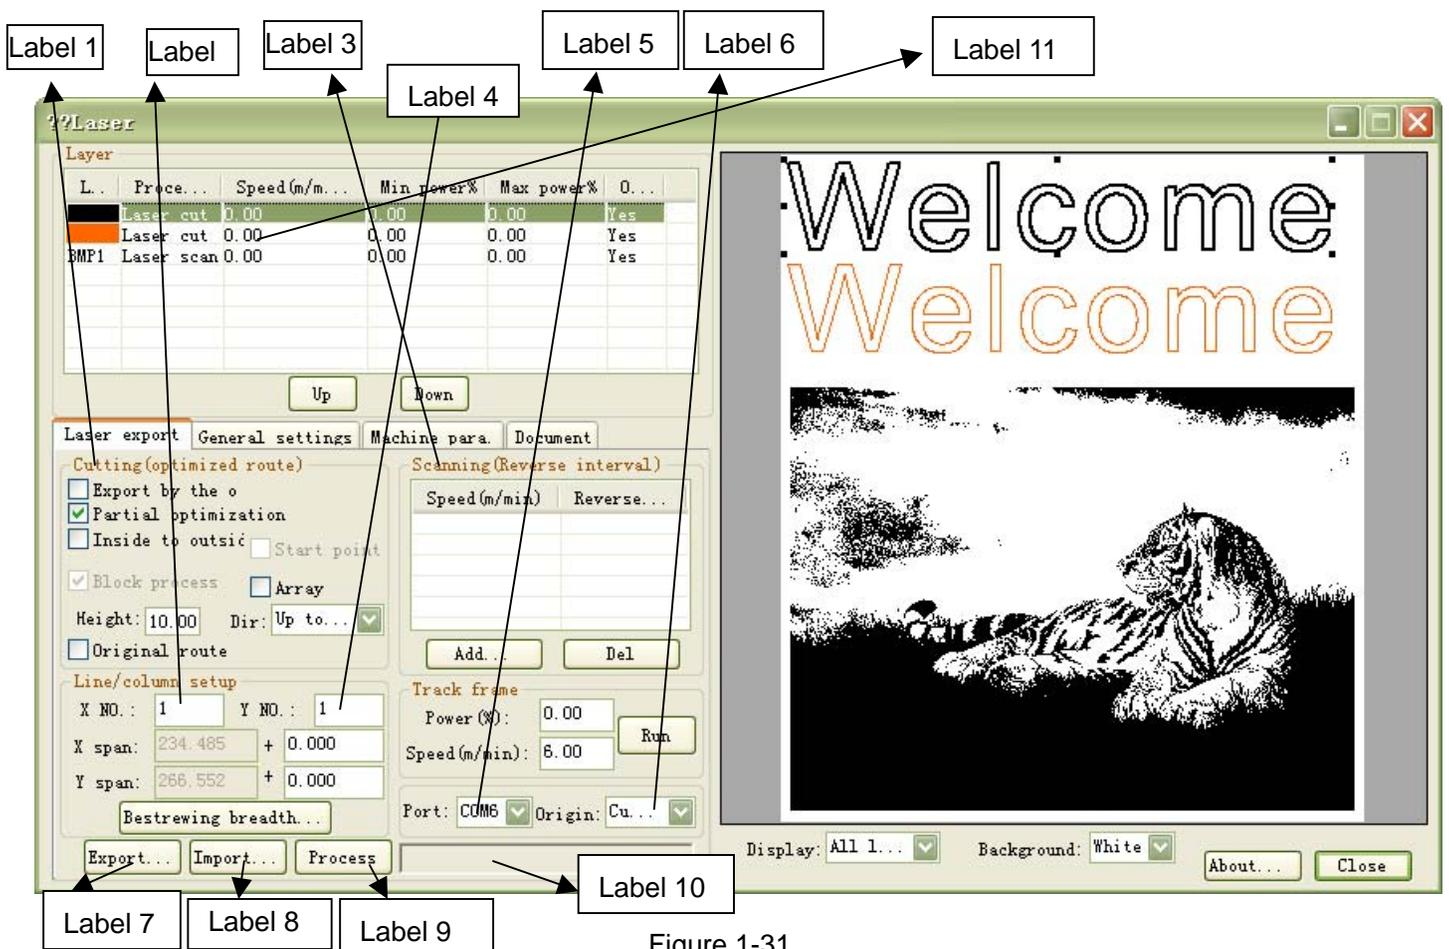
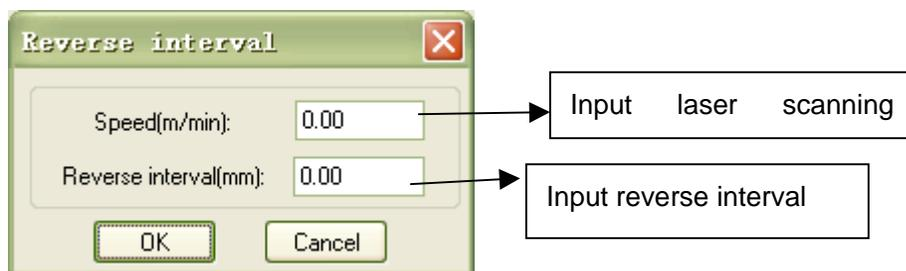

Figure 1-31
Figure 1-32
(1) Setup of *Cutting (optimized route)* (as Label 1 in figure 1-31)
Export layers to the machine for processing in turn according to the order of layers from the top down as shown in Label 11. For example, the black layer is above the red layer in figure 1-31, then we have to cut the black "Welcome to use" before cutting the red "Welcome to use". **We do not select (check) *Export by the order of layers in general*.**
Left click on the *add* button in Label 2 block of figure 1-31, a menu as figure 1-32 will pop up:
Input Speed (e.g.: 8) and Reverse interval (e.g.: 0.3) as shown in figure 1-32, then click on the *OK* button, a menu as figure 1-3 will pop up 3:
- (4) Setup of *track frame*(as Label 4 in figure 1-31)
(5) *Port* selection (as Label 5 in figure 1-31)
(6) Selection of *Origin*(as Label 6 in figure 1-31)
(7) *Export* (as Label 7 in figure 1-31)
(8) *Import* (as Label 8 in figure 1-31)
(9) *Process* (as Label 9 in figure 1-31)
(10) Display of the current operation status (as Label 10 in figure 1-31)